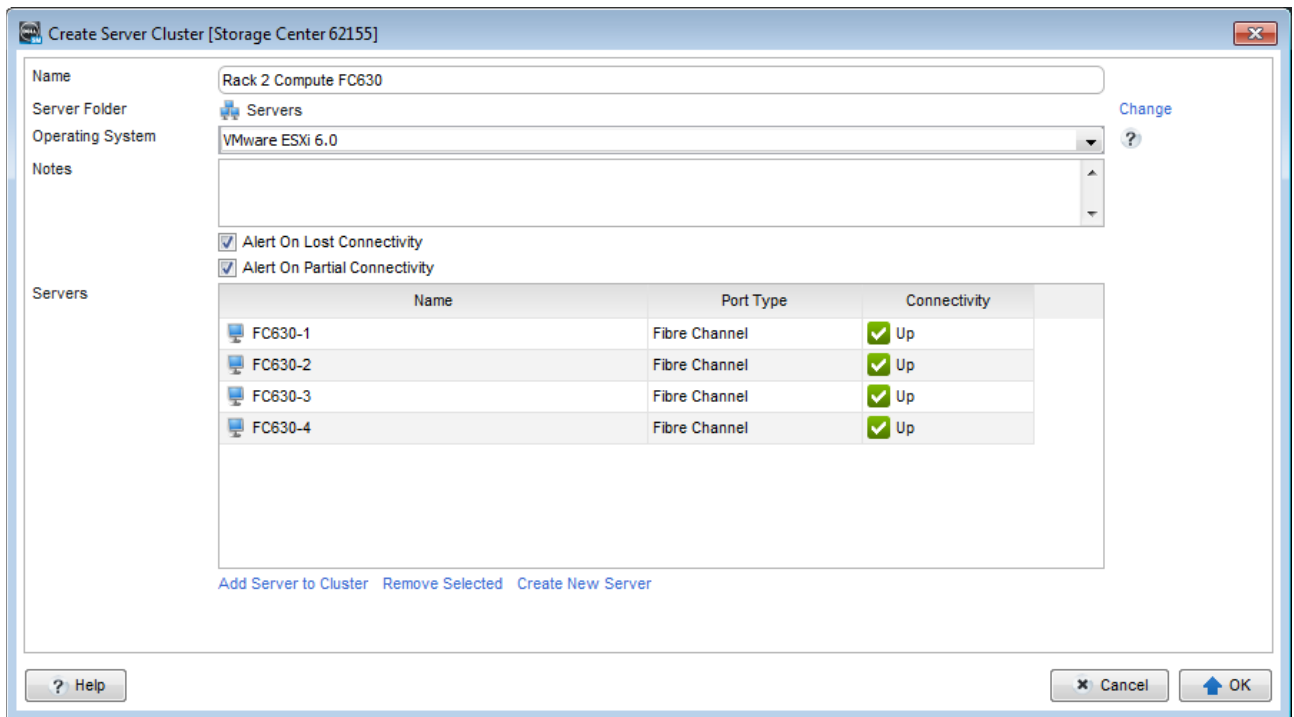

Figure 59 Create server cluster dialog box
- d. Select **Add Server to Cluster**. Select the first server and click **OK**. Repeat as needed until all servers are in the cluster are added as shown in Figure 59.